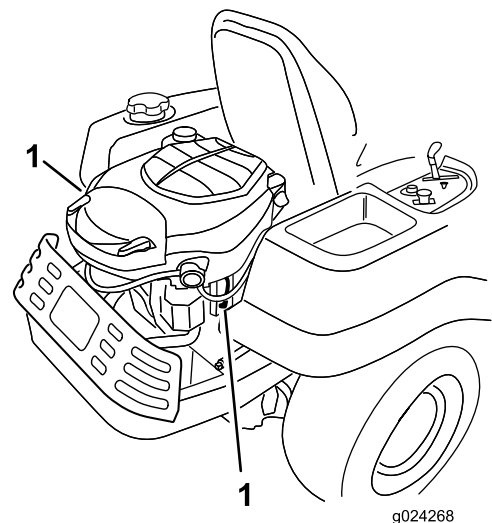

Figure 32
3. Pull the wire off the spark plug(s) (Figure 32).
3. Push the wire onto the spark plug (Figure 32).